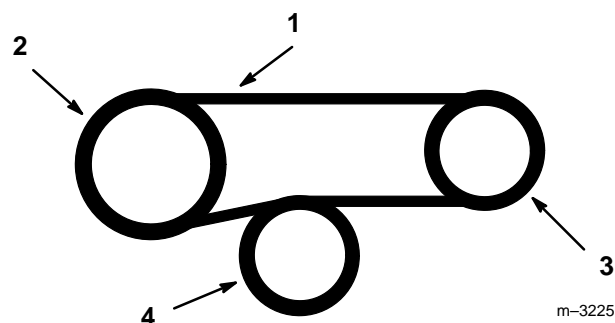

Figure 34
4. Install new PTO belts over clutch and route around gear box pulleys and above spring loaded idler (Fig. 34).